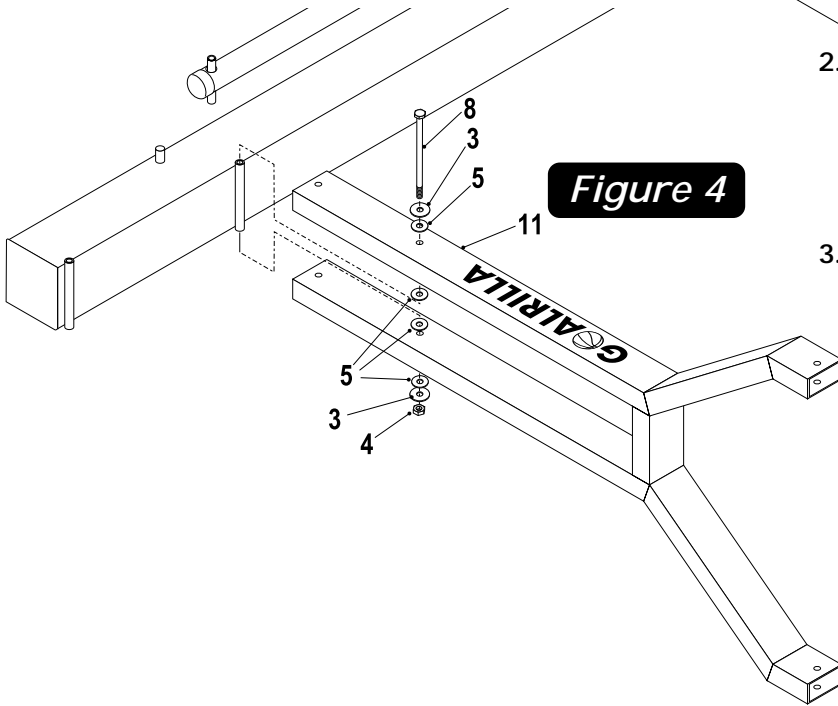

Figure 4
4. Attach lower arm (#11) to Pole (#2), as shown in Figure 4, using a bolt (#8), two flatwashers (#3), four plastic washers (#5) and hex nut (#4). **Note:** make sure "Goalrilla lettering is right side up. Do NOT tighten bolt (#8) at this time.